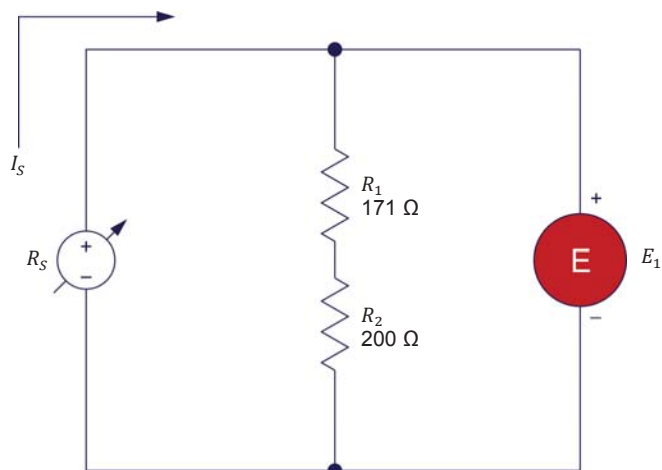

Figure 18. Determining the equivalent resistance of resistors connected in series.
Set up the series circuit shown in Figure 18. To obtain the resistor arrangement of Figure 18, make the necessary connections and switch settings on the Resistive Load module.
4. Calculate the equivalent resistance ($R_{Eq.}$) of series resistors R_1 and R_2 in Figure 18.